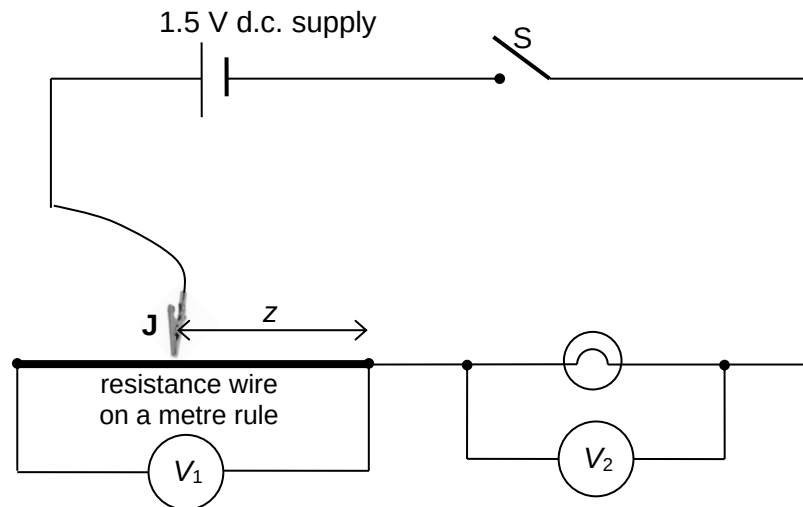

Fig. 2.1
Fig. 2.1 shows a circuit consisting of a resistance wire on a metre rule and a light bulb arranged in series.
- (a) (i) Connect the circuit as shown in Fig. 2.1.